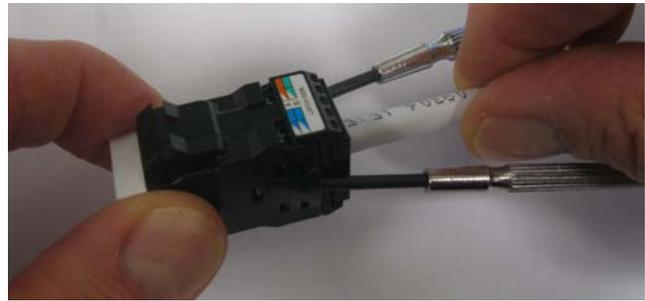
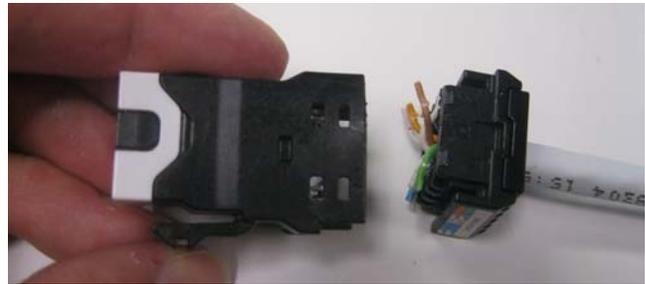

Figure 14
Figure 15
2. When the front housing side walls are fully deflected, hold the front housing and the cable as shown in Figure 14, and pull until the back housing separates from the lacing cap and front housing. See Figure 15.